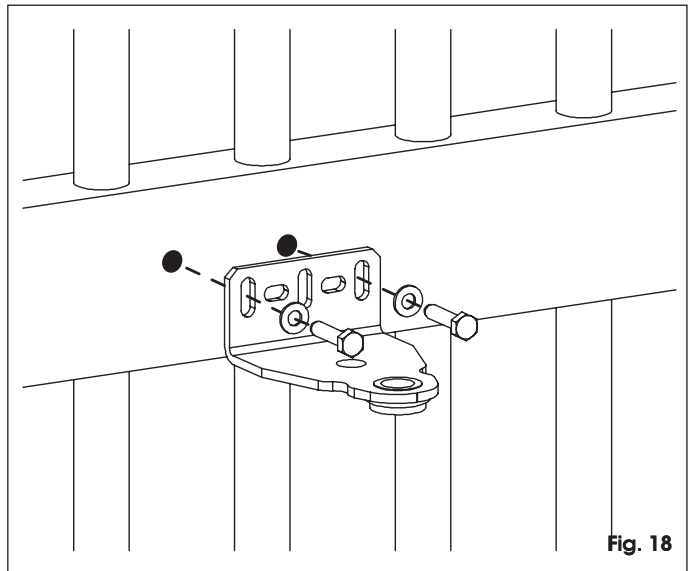

Fig. 18
- 12. Definitively secure the front bracket, using a suitable securing system as indicated in figure 18.